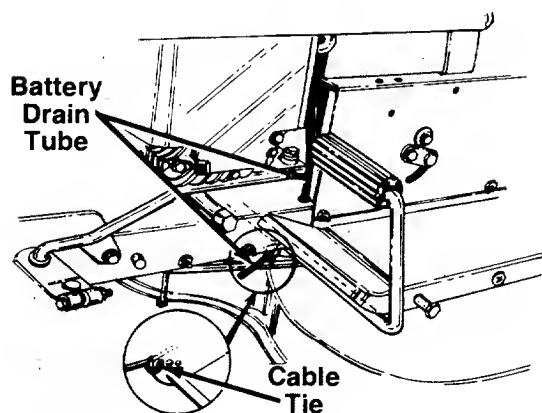

FIGURE 8.
6. Route the battery drain tube down through the hole in the frame, then forward to the bracket on clutch-brake pedal shaft. See figure 8.